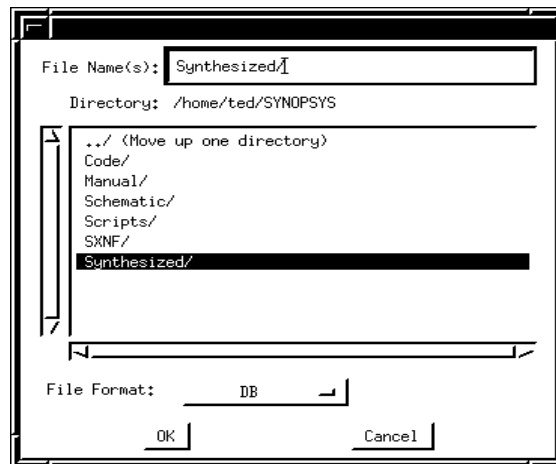

Figure 14: Read File.
(4) We will use the Design analyzer to examine the pre and post replace_fpga synthesis results. type design_analyzer from the Unix command (enter this command from the Synopsys directory). Select File -> Read from the top portion of the Synopsys Design Analyzer window. The Read File window will appear as shown in Figure 14. From this window, left click on the Synthesized directory in the central portion of the window. After doing so, the Synthesized/ directory will appear in the File Name(s) field. Move the cursor to the right of this name and left click the mouse. Press the Return key on the keyboard. The scroll window will now list the files found your Synthesized directory (see Figure 15). Select half_adder_before_replace_fpga.db and select the OK button.